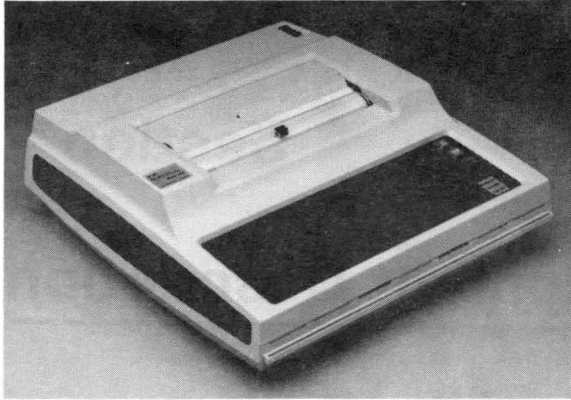

Figure 1-1. Model 781 RO Printer
The Model 781 Receive-Only (RO) Printer (Figure 1-1) is intended for applications requiring a hard-copy, high-speed output device. Using a dual-matrix thermal printhead, the 781 RO provides virtually silent printing at up to 140 cps. Operating parameters are entered from a calculator-type keypad.